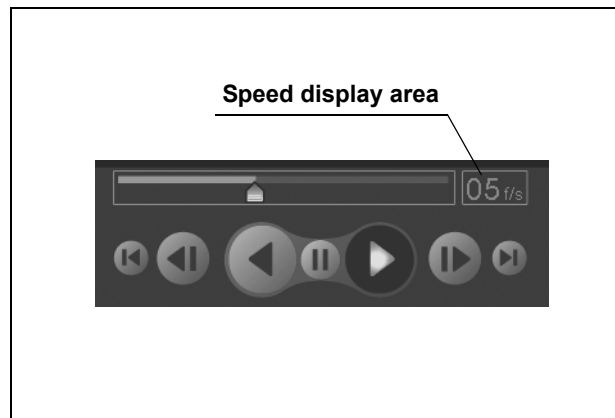

Figure 6.20
- The review speed is displayed in the speed setting display as the number of images displayed per second (see Figure 6.20).